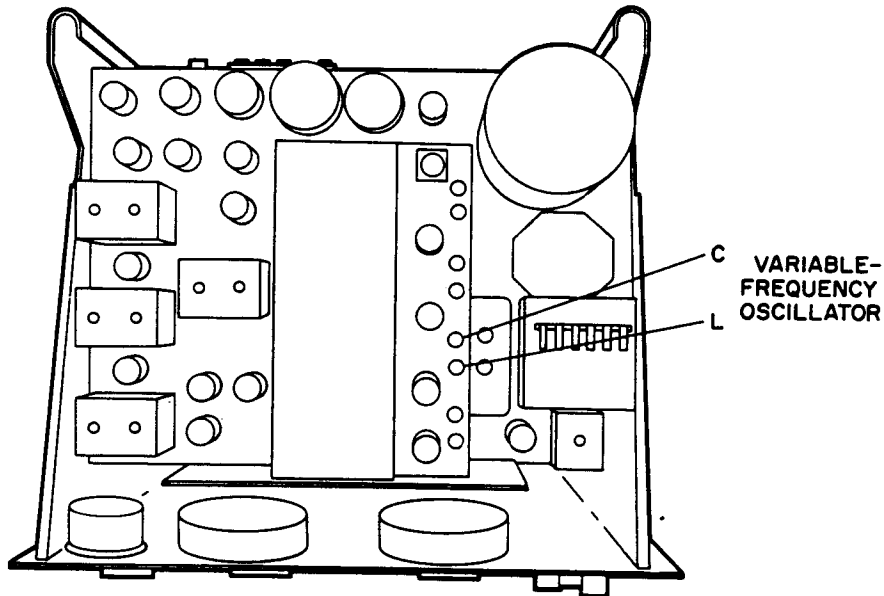
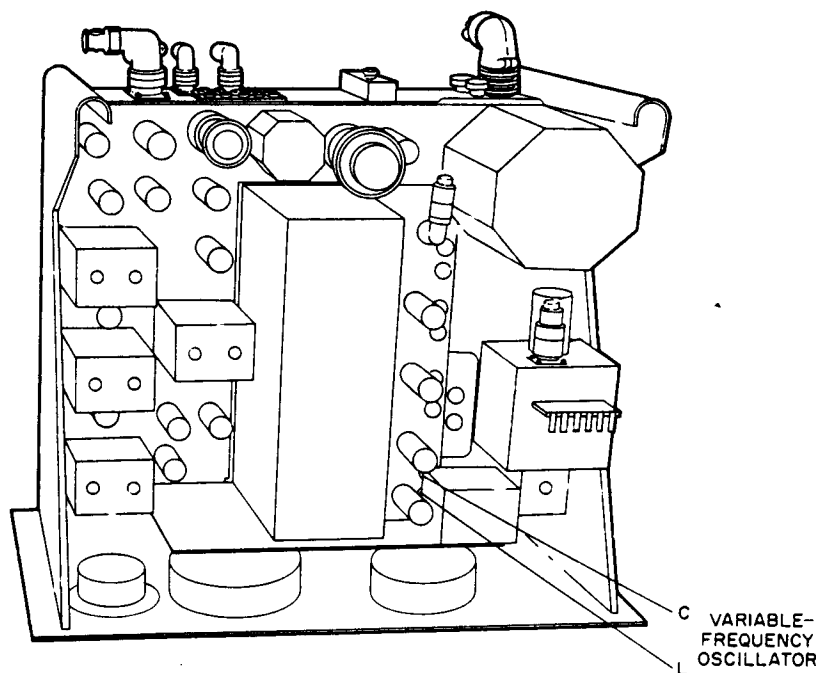

Figure 2-3. Radio Receiver SP-600-JX-21, Top View of R-F Section
Figure 2-4. Radio Receiver SP-600-JX-17, Top View
- (2) Set the MOD-CW switch on the radio receiver to the MOD position.
- (3) Set the SELECTIVITY switch on the radio receiver to the 3 NON-XTAL position.
- (4) Set the MULTIPLIER switch on the signal generator to the .1 position and adjust the CARRIER CONTROL until an indication of 100 is obtained on the output meter of the signal generator.
- (5) Adjust the MICROVOLTS control on the signal generator until an indication of 30 is obtained on the upper scale of the signal generator output meter.
- (6) Set the MOD SELECTOR switch on the signal generator to the 400 cycle position.
- (7) Set the METER READS switch on the signal generator to the % MOD position and adjust the % MODULATION control until an indication of 30 is obtained on the lower scale of the signal generator output meter.
- (8) Set the METER READS switch on the signal generator to the RF position.
- (9) Rotate the BAND CHANGE switch on the radio receiver until the indication 0.54-1.35 appears in the MEGACYCLES window.
- (10) Rotate the radio receiver TUNING control until an indication of 0.56 megacycle is obtained on the main tuning and vernier dials.
- (11) Adjust the AUDIO GAIN control on the radio receiver until an indication of 2.45 volts is obtained on the multimeter.
- (12) Refer to figure 2-3 for radio receiver SP-600-JX-21 or figure 2-4 for Radio Receiver SP-600-JX-17. Remove the metal cap and adjust variable-frequency oscillator L until a maximum indication is obtained on the multimeter.
- (19) Set the MOD SELECTOR switch on the signal generator to the 400 cycle position.
- (20) Refer to figure 2-3 for Radio Receiver SP-600-JX-21 or figure 2-4 for Radio Receiver SP-600-JX-17. Remove the metal cap and adjust variable-frequency oscillator C until a maximum indication is obtained on the multimeter.
- (21) Rotate the CARRIER CONTROL on the signal generator fully counterclockwise and the MICROVOLTS control on the signal generator fully clockwise.
- (22) Set the MOD SELECTOR switch on the signal generator to the OFF position.
- (23) Repeat step b. (4) through (6) and (8) through (22).
- (24) Rotate the signal generator tuning dial until an indication of 1.4 megacycles is obtained on the frequency and index scales.
- (25) Rotate the BAND CHANGE switch on the radio receiver until the band indication 1.35-3.45 appears in the MEGACYCLES window.
- (26) Rotate the radio receiver TUNING control until an indication of 1.4 megacycles is obtained on the main tuning and vernier dials.
- (27) Repeat step b. (17) through (19).
- (28) Refer to figure 2-3 for Radio Receiver SP-600-JX-21 or figure 2-4 for Radio Receiver SP-600-JX-17. Adjust variable-frequency oscillator L until a maximum indication is obtained on the multimeter.
- (29) Repeat step b. (13) and (14).
- (30) Set the FREQUENCY BAND SWITCH on the signal generator to the Band F position and rotate the signal generator tuning dial until an indication of 3.4 megacycles is obtained on the frequency and index scales.
- (31) Rotate the radio receiver TUNING control until an indication of 3.4 megacycles is obtained on the main tuning and vernier dials.
- (32) Repeat step b. (17) through (19).
- (33) Refer to figure 2-3 for Radio Receiver SP-600-JX-21 or figure 2-4 for Radio Receiver SP-600-JX-17. Adjust variable-frequency oscillator C until a maximum indication is obtained on the multimeter.
- (34) Rotate the CARRIER CONTROL on the signal generator fully counterclockwise and the MICROVOLTS control on the signal generator fully clockwise.
- (35) Set the MOD SELECTOR switch on the signal generator to the OFF position.
- (36) Repeat step b. (24) through (35).
- (37) Rotate the signal generator tuning dial until an indication of 3.75 megacycles is obtained on the frequency and index scales.